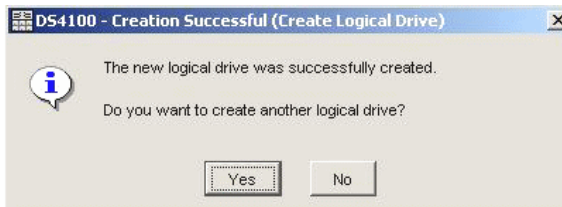

Figure 9-43 Creation Successful (Create Logical Drive) window
12. Specify the logical drive to LUN mapping, insuring you pick a type where AVT/ADT is enabled (see Table 9-1 on page 275). In our example, we selected Windows 2000/Server 2003 Non-Clustered. Click **Finish** to created the LUN. Next, you will see a window similar to Figure 9-43.